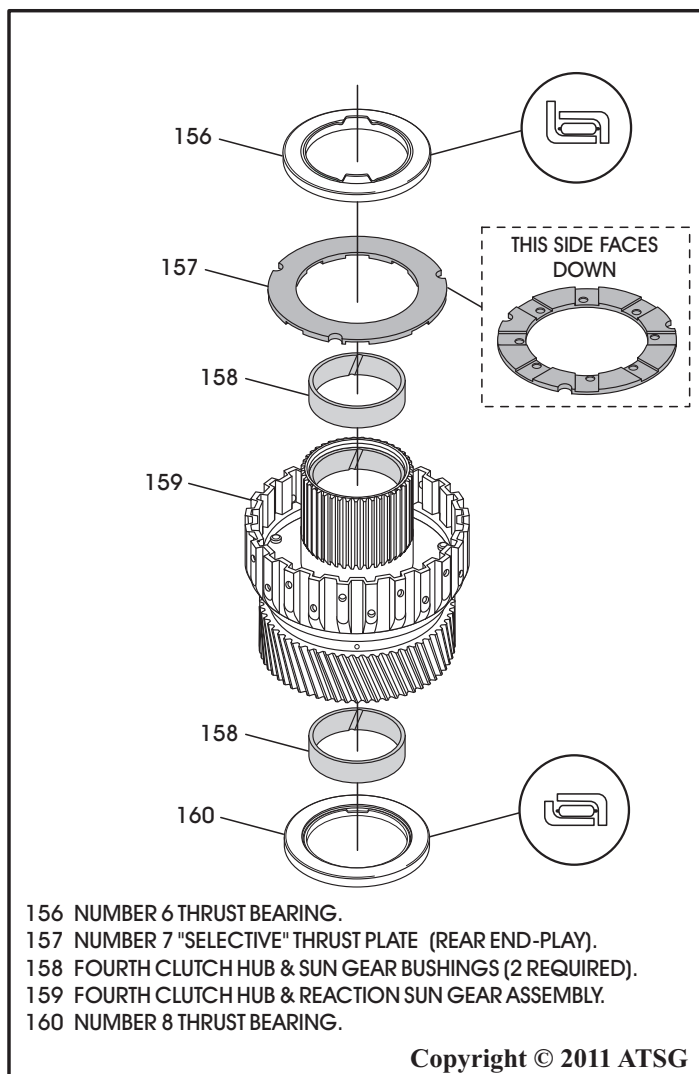

Figure 86
4. Install number 7 **selective** thrust washer into 4th clutch hub/reaction sun gear with the "grooved" side facing down, as shown in Figure 86, and ensure it is fully seated over the locating tabs.
6. Install the number 6 thrust bearing on top of the number 7 selective thrust washer in the direction shown in Figure 86 and retain with small amount of Trans-Jel®.